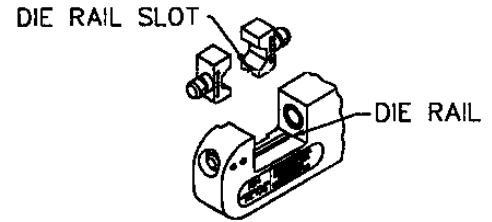

FIG. 1
1. Align die rail slots in die halves with the rail in crimping tool and push shank of dies into holes. Dies will snap into place. (See Figure 1)